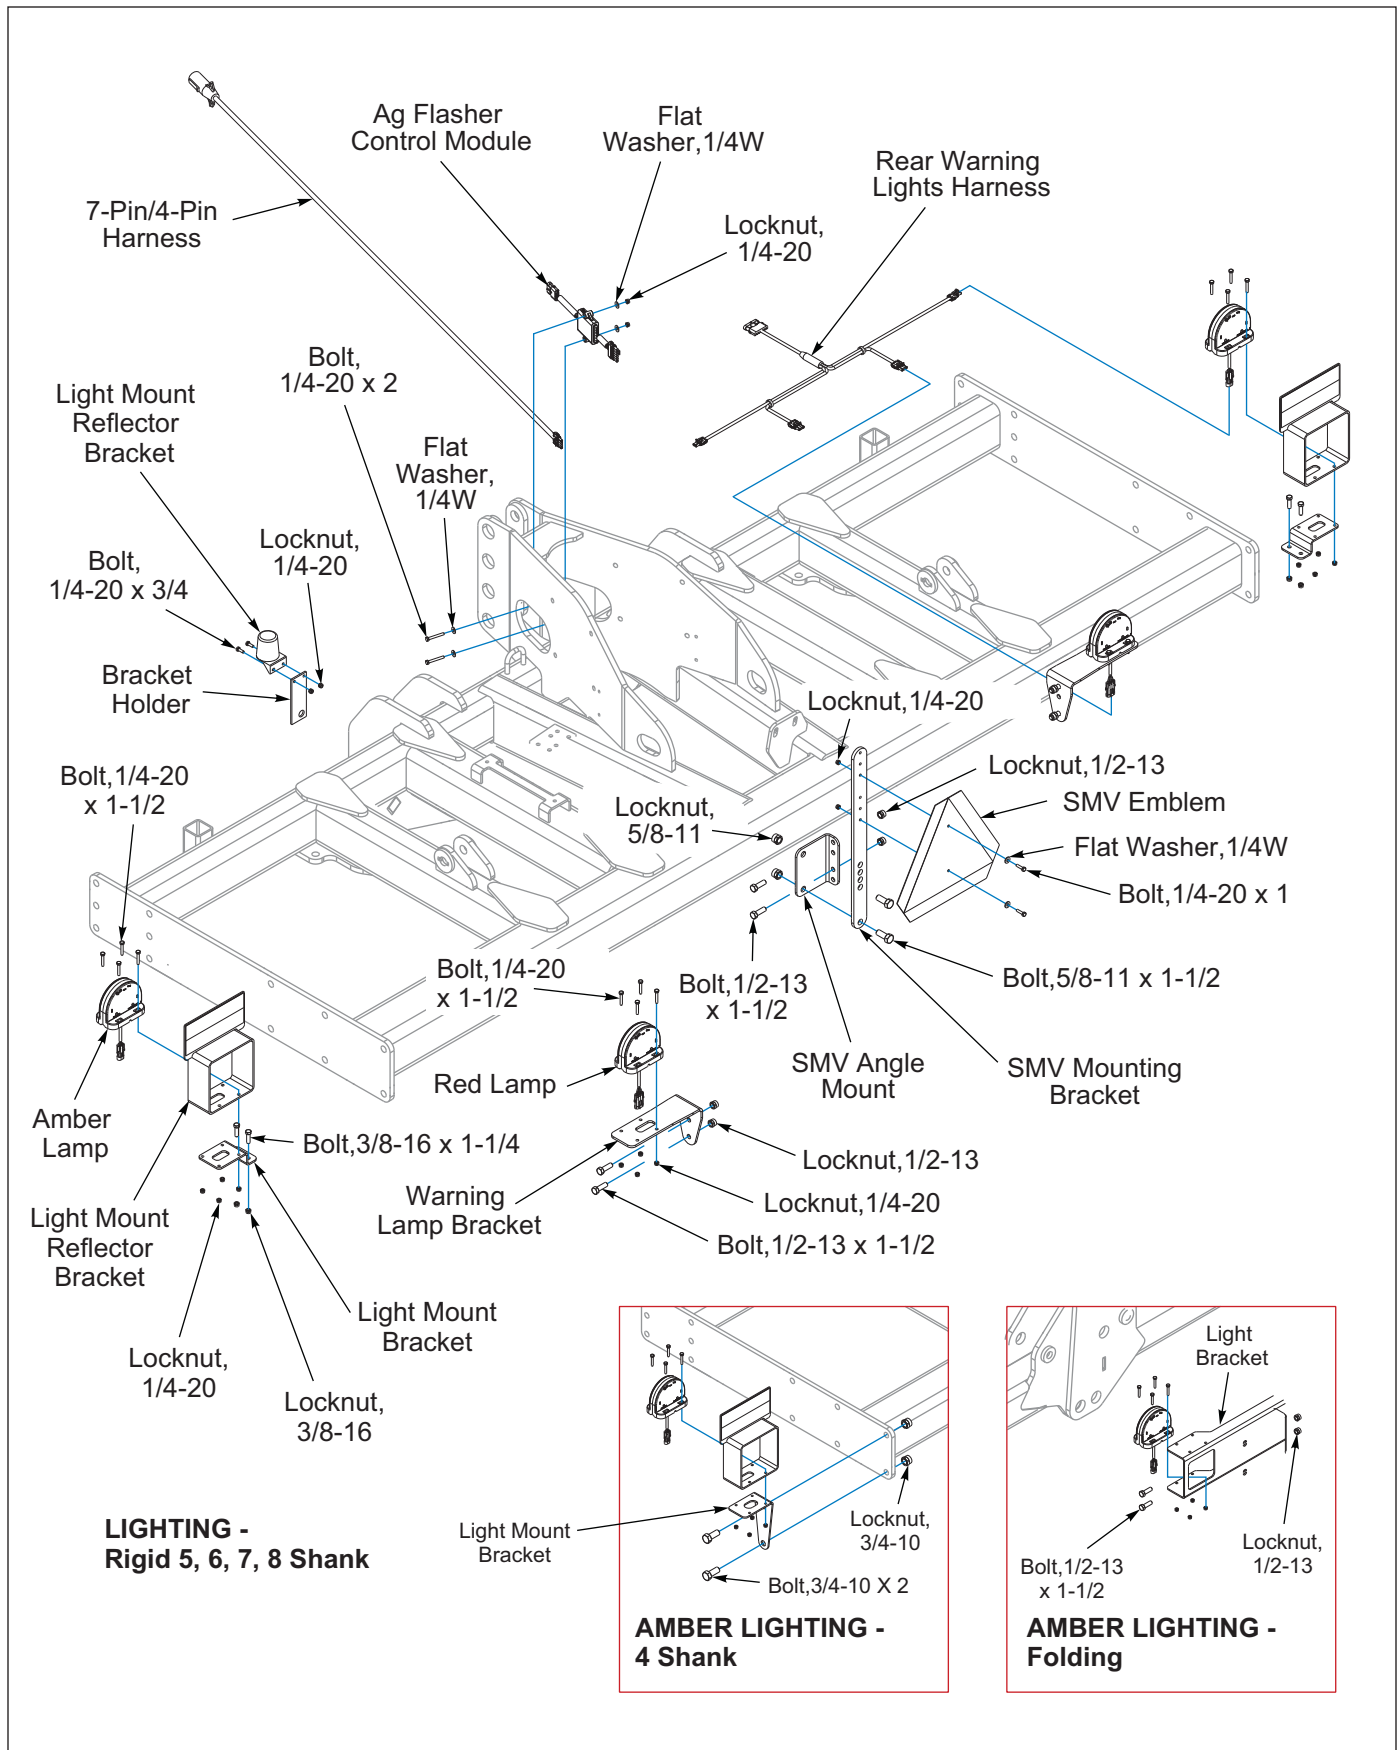

Figure 3-11: LED Light and SMV Bracket Installation
2. Attach SMV emblem to top of SMV Mounting Bracket using 1/4-20 x 1 hex head Capscrews, Flat Washers, and Hex Locknuts *See Figure 3-11.*
1. Attach left and right (Amber) Light Mount Brackets to frame. (*See Figures 3-11 thru 3-12.*)